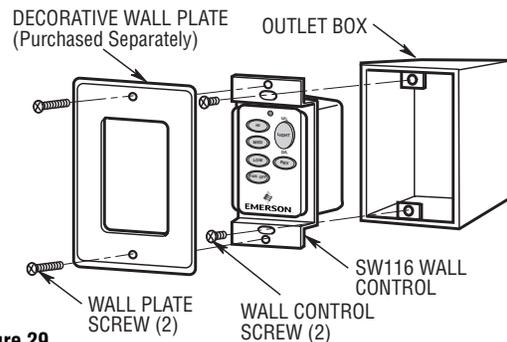

Figure 29
3. Install the wall control onto the outlet box using the supplied screws (Figure 29).
4. Install decorator wall plate (not included) using the two screws provided with the wall plate. Leave wall control in "OFF" mode until fan installation is completed (Figure 29).